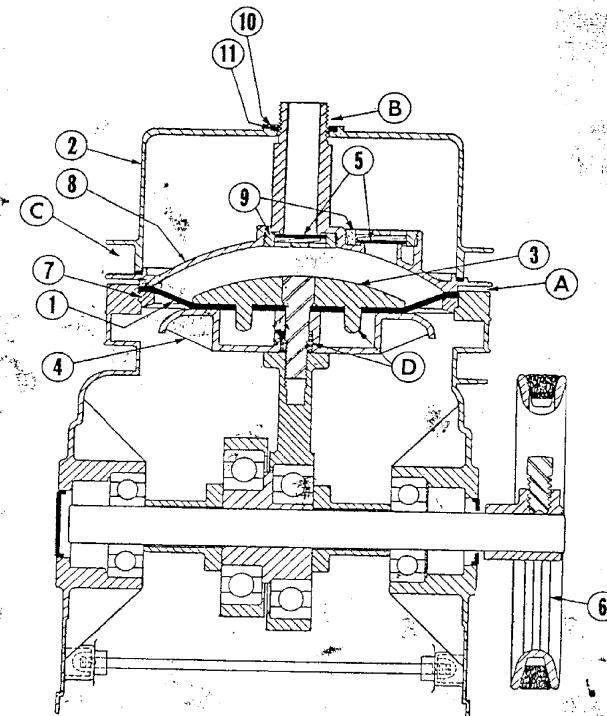

Figure 39—Air Pump Diagram
(1) THE VACUUM RELIEF VALVE (located in the vacuum line) is factory set to handle most stocks normally run on press. Should it be necessary to adjust this valve to operate under abnormal conditions, always return valve to original setting (indicated by adjustment limiting wire) after completion of run.
(2) HOW TO CLEAN AIR FILTER AND MUFFLER.—Under normal operating conditions the combination air filter and muffler should be cleaned once a week with a suitable brush. New filter felts should be installed each year.
(3) HOW TO CLEAN VACUUM SURGE TANK.—Each month open surge tank drain cock (press motor shut off) and drain off any accumulated oil. Press will not operate properly unless drain cock is tightly closed after draining. In order to prevent excessive accumulation of paper dust and spray material in tank, remove tank cover once a year and clean tank interior with a suitable solvent.
(4) REPAIRS.—If pumps fail to provide adequate blast or vacuum, check diaphragms and valve discs for proper operation. If repairs are necessary, proceed as follows:
(a) Diaphragms. Inspect diaphragm (1, Figure 39) for possible rupture by removing hose and manifold which connects the two air domes (2). Do not damage gasket between manifold and air domes. Remove 6 screws holding air head in place and remove entire head at point "A."
To complete diaphragm installation turn pump by hand until pull plate (3, Figure 39) is at top center. Locate diaphragm in proper position and reassemble head. Be sure head is properly centered then tighten screws slightly and uniformly. Turn pump pulley (6) several revolutions by hand to assure proper seating of diaphragm on top of diaphragm ring (7) and then tighten screws securely. Reassemble manifold and hose.
*Note:* Locating pins have been provided in valve bridge (8) and air dome (2) to assure proper assembly. These pins should not be altered or moved.